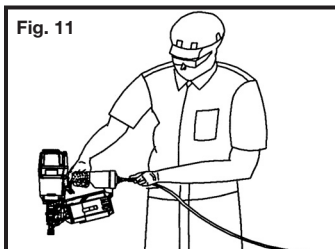

Fig. 11
18. **Always assume the tool contains fasteners.** No horseplay. Respect the tool as a working implement. Fig. 11.